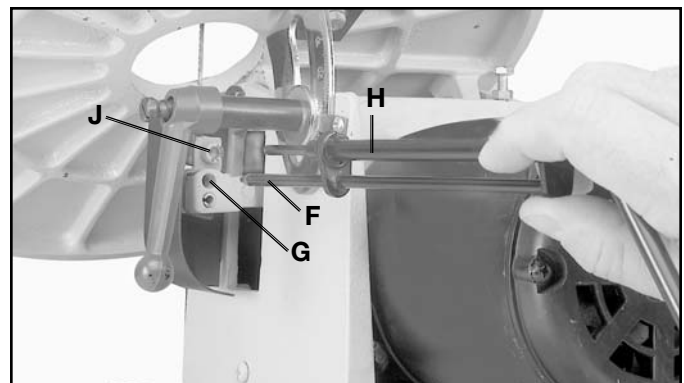

Fig. 25
4. Insert long end (F) Fig. 25, of quickset blade changing wrench into hole (G) in lower blade holder. This will auto-matically align wrench (H) with blade holder screw (J).